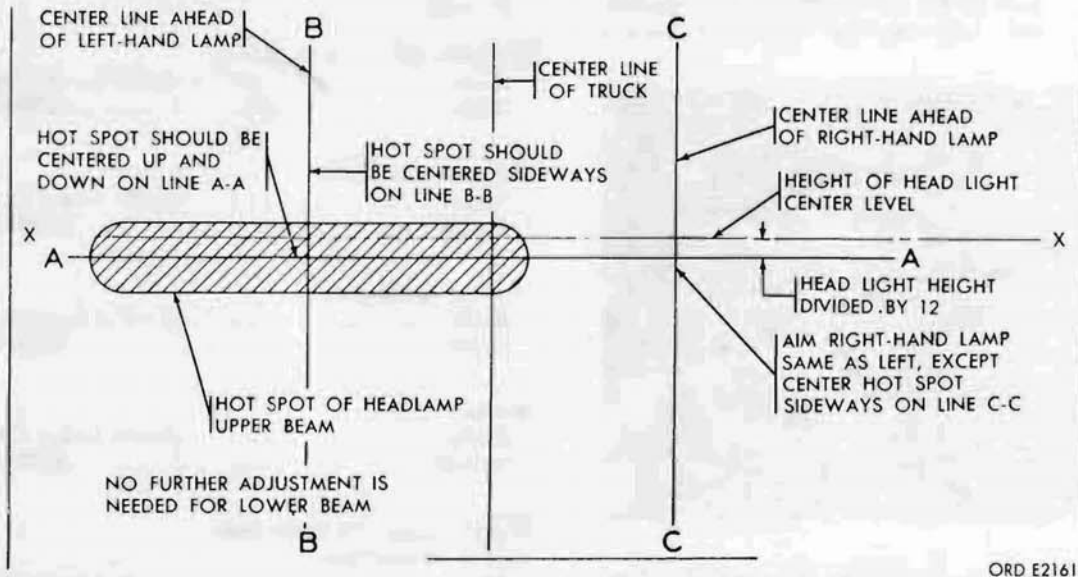

Figure 157. Service headlight adjustment diagram
- (1) To reduce service headlight glare and prevent temporary blinding of the operator of the oncoming vehicle, headlights must be adjusted properly. The headlight beam direction is changed by two lamp-unit adjusting screws, one at the top and one on the side. Remove the three door screws and remove the headlight door. Turn the top adjusting screw to change the direction of the beam vertically, and turn the side adjusting screw to change the direction horizontally. Adjust the lights as detailed in (2) through (9) below.
- (2) Place the unloaded vehicle on a smooth level surface so that the headlights are 25 feet away from a vertical wall or other vertical surface. The centerline of vehicle must be at right angles to the vertical surface. Use the service headlight adjustment diagram (fig. 157) for aid in laying out the adjustment lines.
- (3) Measure the height of the headlight center from the floor, and mark a horizontal line (X-X) at this height on the vertical surface.
- (4) Mark a line (A-A) one-twelfth of the distance between line (X-X) and the floor below line (X-X).
- (5) Draw vertical lines (B-B) and (C-C) directly in front of each headlight.
- (6) Turn on the headlights at the light switch and select the high beam with the dimmer switch. Remove the headlight rims.
- (7) Cover one headlight while adjusting the other. Aim the headlight so that the center of the hot (brightest) spot registers with the intersecting lines (A-A) and (B-B), or (A-A) and (C-C) respectively.
- (8) After each light is aimed separately, check both lights simultaneously for conformity to line (A-A).
- (9) Install the headlight doors and secure each with three grooved screws.